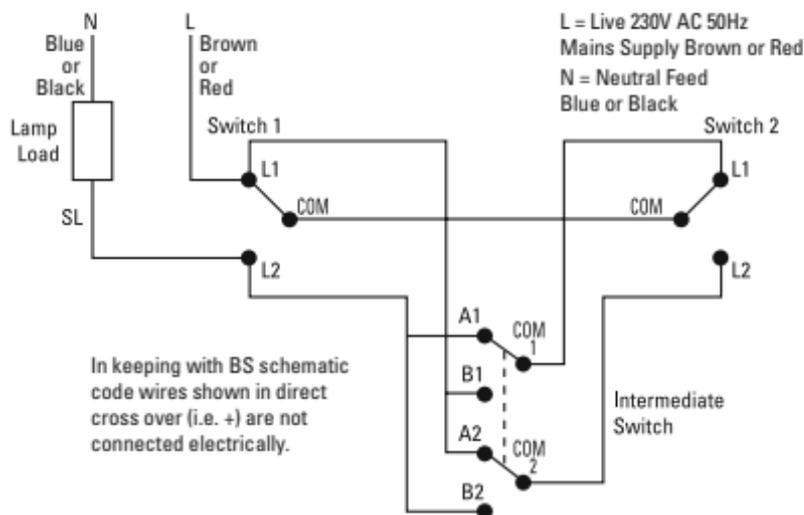

Fig 5 – Strapping Cable & One Intermediate Switch
- This involves wire identification and tracing. Switch installation should be left to a competent electrician who will be able to relate to the circuit diagrams shown in figures 5 to 12 to the practical installation.
- There are two main ways of achieving 2 way switching – Strapping Cable and Remote Live Access. The circuits for these are shown in figs 5 and 6. They are shown with a single intermediate switch giving 3 way switching. Further intermediate switches can be added.